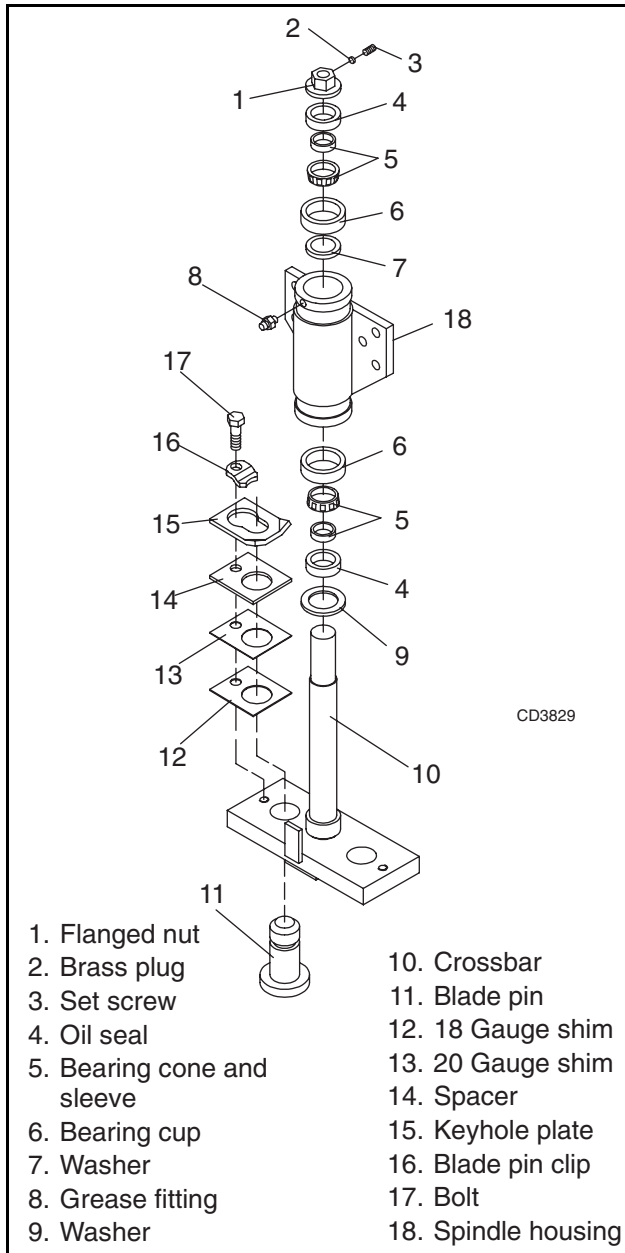

Figure 11. Blade Spindle Assembly
Remove blades from crossbar and belts from pulley. Remove split taper bushing from pulley and remove pulley from spindle. Remove spindle from cutter. Remove set screw and flanged nut (1) from spindle, see Figure 11. Block under washer (9) and housing and press blade carrier and spindle shaft out of housing.
Press new cups (6) into spindle housing, seating them against housing bore shoulder, see Figure 11.
Place washer (7) over shaft and seat. Seat bearing cone and sleeve (5) on bearing cup, see Figure 11.